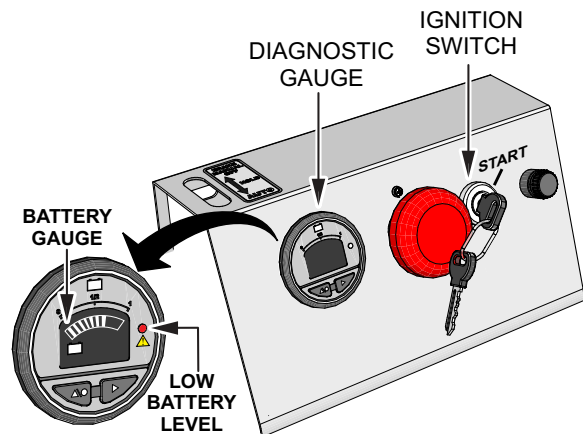

Figure 21. Ignition Key (Start)
2. Place the ignition key (Figure 21) in the **START** position. Verify that all segments of the diagnostic gauge illuminate for 1 second and then turn off. In addition, check battery voltage level. If low, recharge batteries.